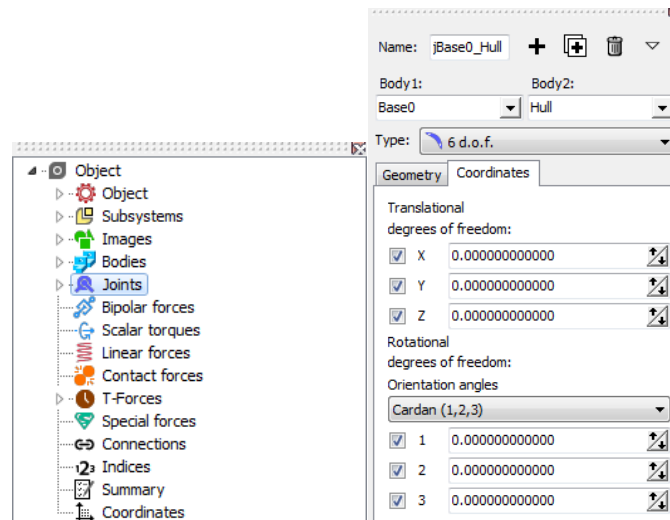

Figure 1.28. Adding a joint for hull
- select the Joints item in the list of elements, Figure 1.28;
**Remark 2.** As it is known, any three orientation angles have a singular position. For instance, the Euler angles are singular for zero values of coordinates, and these angles practically do not used in technical applications. We do not recommend the user to use the angles, which are singular at zeroes, i.e. angles corresponding to sequences of rotations in which the first and the third rotations axis are of the same name: are 3, 1, 3; 1, 2, 1 and so on. For example, the Cardan angle with the sequence of rotations 1, 2, 3 is singular for the second rotation angle (rotation about the Y-axes) equal to 90 degrees, i.e. in fact by the overturning of the TV. As well, it is recommended to use the angles 3, 1, 2 (yaw, pitch, and roll angles) (Figure 1.28).